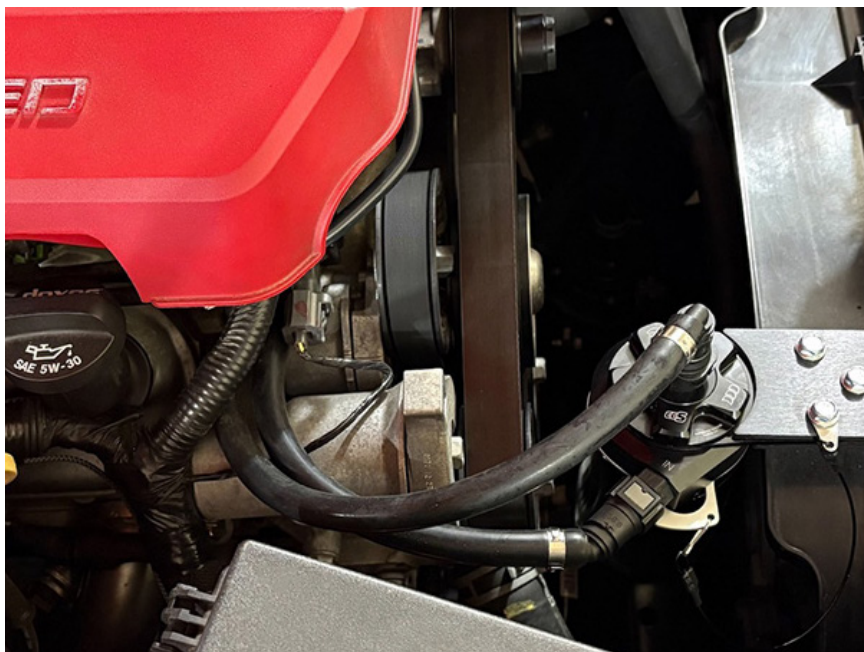

Figure 4 - Final Hose Routing
- 💡 Refer to Figure 4 for hose routing.